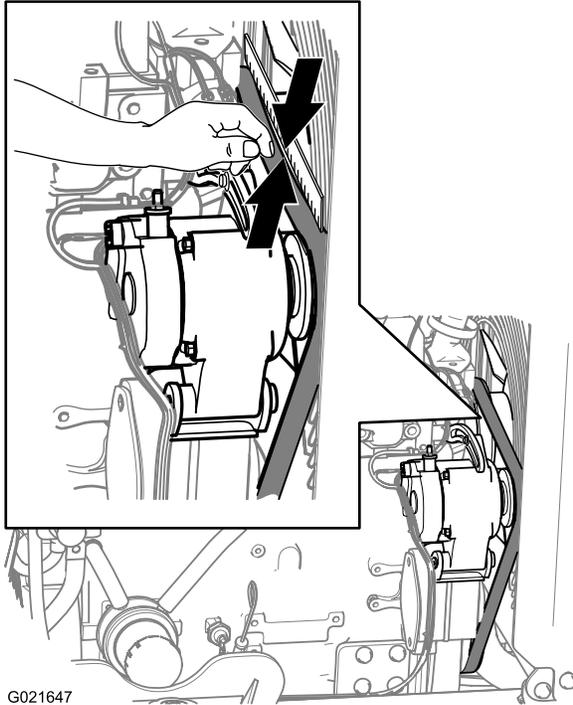

Figure 114
3. Inspect the belt for cuts, cracks, loose cords, grease, oil, twisting, or signs of abnormal wear (Figure 114).
3. Align a straight edge over the drive belt and across the pulleys as shown in Figure 114.
4. Press the belt down at the midway point between the fan pulley and the alternator pulley as shown in Figure 114.